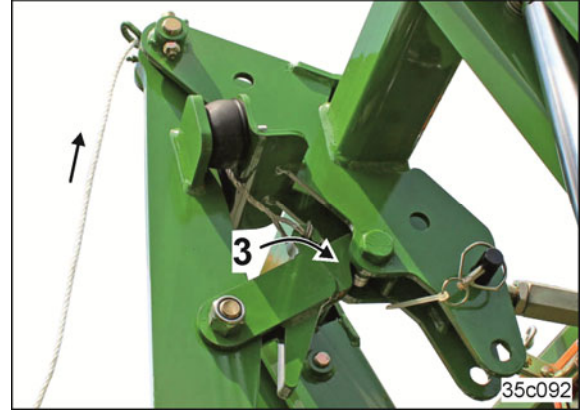

Fig. 130
- The locking hook (Fig. 130/3) represents the mechanical locking mechanism of the lifting frame.